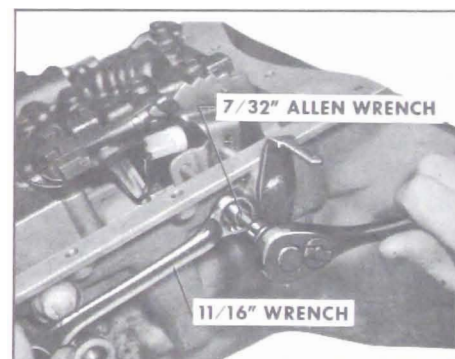

Figure 5-324
2. Back off band adjusting screw four (4) turns and lock nut. See Figure 5-324.